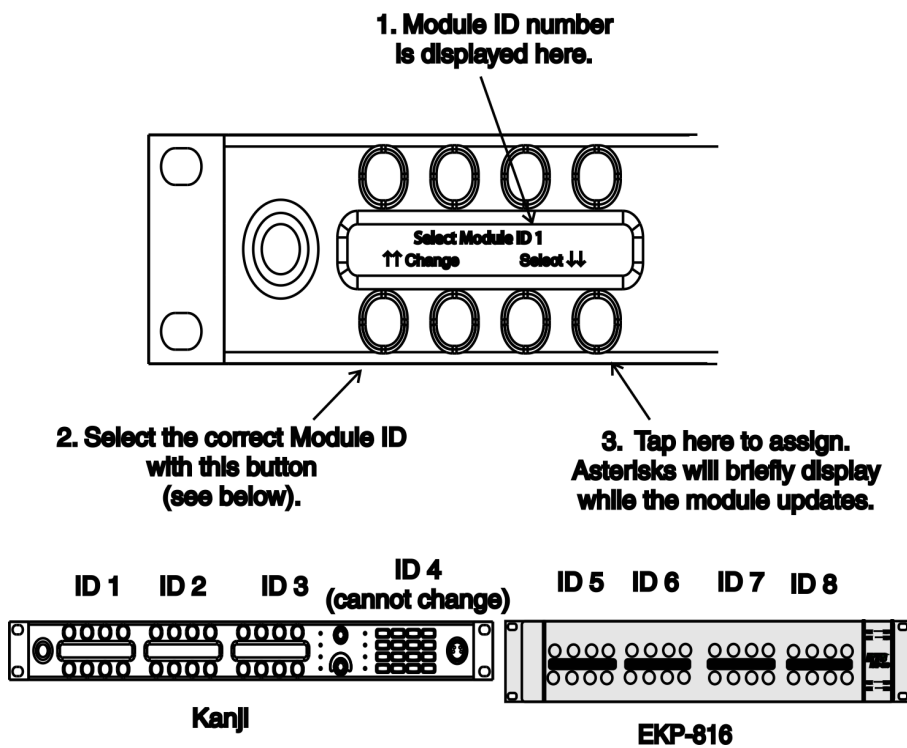

FIGURE 9. Module Assignment Example
Mod Assign is used to define the address of each keypanel key. The KP 612/KP 412 keypanel and EKP 812 use Module ID numbers (Mod ID Numbers) to define the address of each key and display module see Figure 9 on page 60.
2. Assign the **Mod IDs** as shown in Figure 9 on page 60.